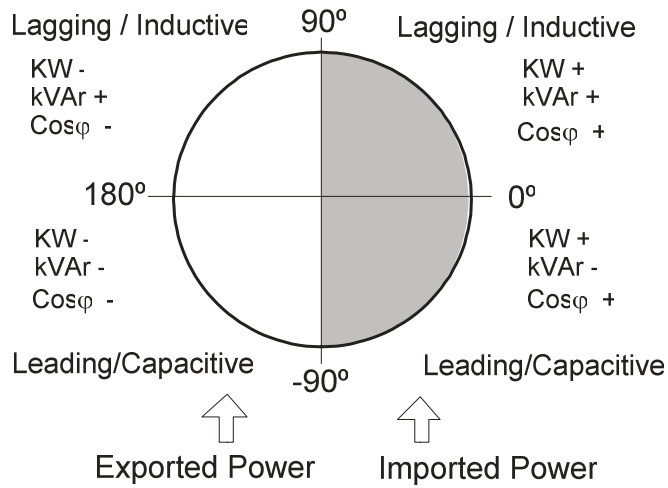

Fig. 2.1.- Power signs in four quadrants measurements
- Four quadrants control (see fig.2.1), display of the connected stages, of $\cos\phi$ and active and reactive power signs (inductive \sim or capacitive \dashv)